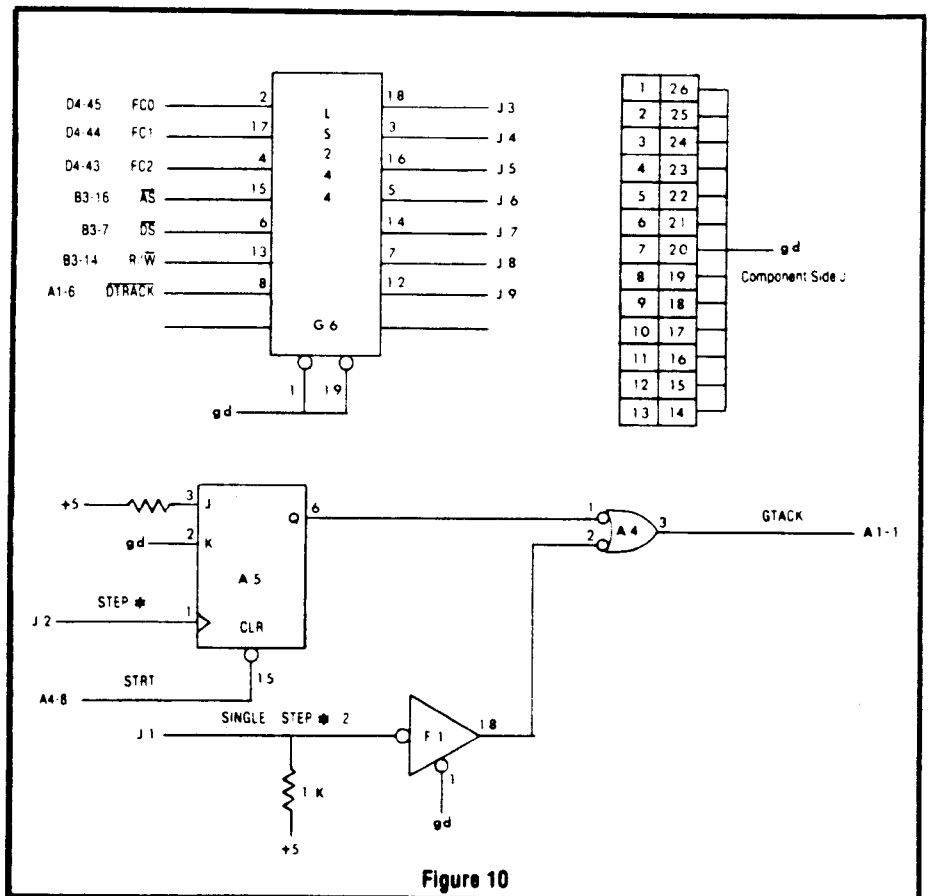

Figure 10
**SINGLE STEP.** If J1 is grounded, then SINGLE STEP (see Figure 10) is asserted and pin 2 of A4 is high. As long as pin 2 of A4 is high GTACK is the inversion of the Q\* output of A5. Now a debounced switch connected to J2 can be used to single step the 68008.
**Connector J.** The LS244 G6 (see Figure 10) buffers a number of the 68008 control signals so that they may be available to another board. We have also built a companion display board which displays these signals, allows single stepping of the 68008 and displays a number of the S-100 signals. The display board shows the S-100 address, data in, data out in hex displays and control signals in discrete LEDs. ■